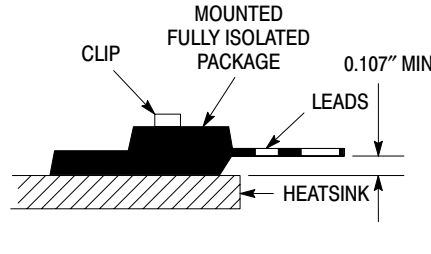

Figure 4. Clip Mounting Position for Isolation Test Number 2
1. UL Recognized mounting method is per Figure 4.